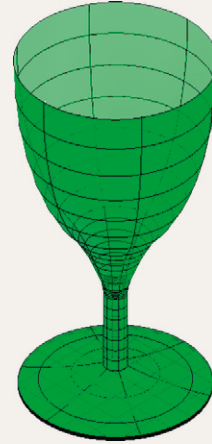
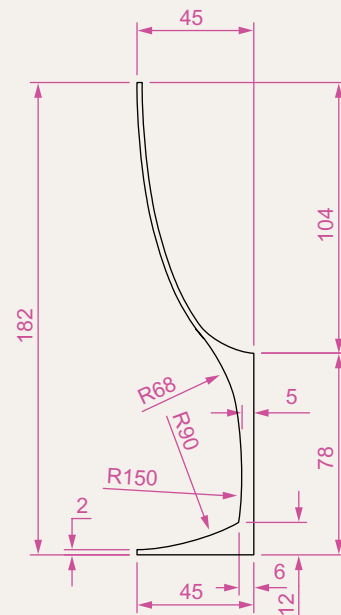

Fig. 12.46 Exercise 4
Fig. 12.47 Exercise 4 – outline drawing
4. Construct the 3D model of a wine glass as shown in Fig. 12.46, working to the dimensions given in the outline drawing Fig. 12.47.